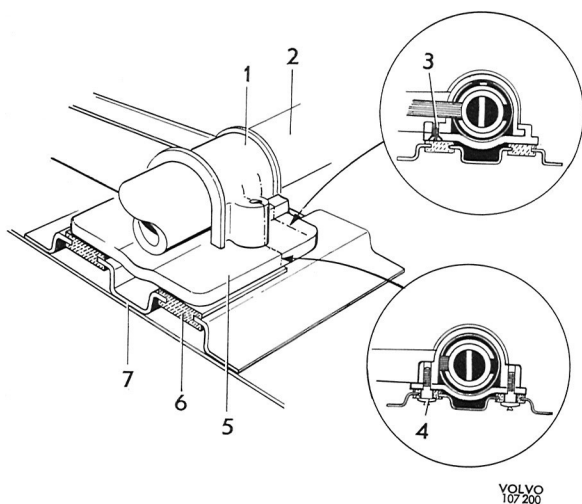

Fig. 6-52. Upper attachment
3. Drill off the collars on the shear bolts (4, Fig. 6-52). Start with a small drill and finish with, for example, a 13 mm ( $\frac{1}{2}$ " ) one. The bolt guide has a diameter of 12 mm ( $\frac{15}{32}$ " ).
4. Remove the attaching bolts and take off the left impact guard and side member (7) with slide piece (6).
5. Screw out the screw (3) and unhook the attaching plate (5).
1. Install the new steering wheel lock and the electrical part in position. Hook on the attaching plate (5, Fig. 6-52) and screw in the screw (3). Check the locking function.
2. Install the side member (7) with the slide piece (6) which must be in good condition. Install the impact guard.
3. Install the shear bolts (4) but do not shear off the heads.